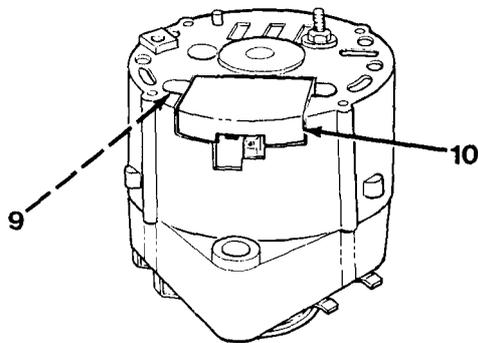

Figure 10-3
1. Remove two self-tapping screws (9) and pull voltage regulator (10, Figure 10-3) straight back. Unplug and remove voltage regulator (10).